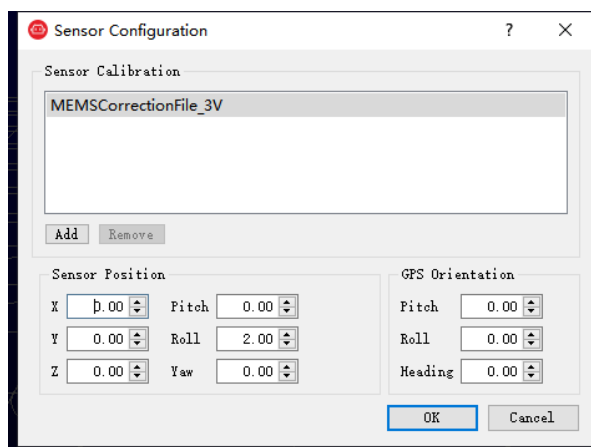

Figure A-2: Select the parameter configuration file of RS-LiDAR- M1
4. After finishing the above 3 steps, the dialogue box "**Sensor Configuration**" shows up. In this dialogue box, the **Sensor Calibration** default contains the configuration folder named MEMSCorrectionFile_3V, select the corresponding file, click **Add** and then click the **OK** button (as shown in Fig A-2). The original point cloud data output from the RS-LiDAR-M1 is already calibrated point cloud data, therefore the value in this parameter file is void.